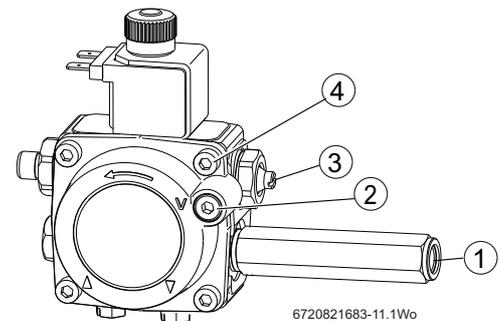

Fig. 49
2. Fit a suitable pressure gauge to port [A] on the oil pump (refer to figure 49).